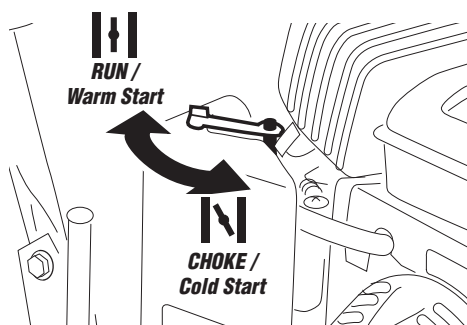

Figure 5
3. Rotate Choke to the Choke Position. (See Figure 5)